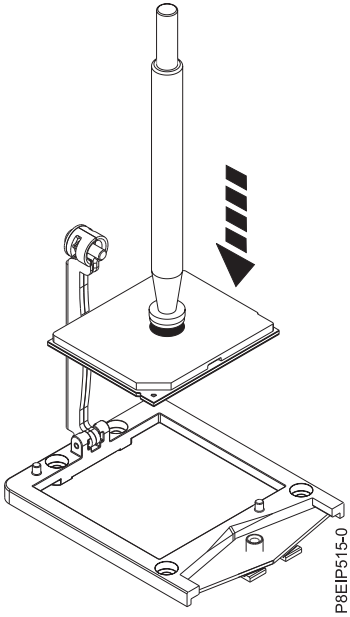

Figure 56. Lowering the processor into the socket
- a. Lower the pen and system processor module onto the socket as shown in Figure 56 on page 52. Align the beveled corner of the processor with the beveled corner on the socket. Use care to lower the tool evenly without tilting the processor.